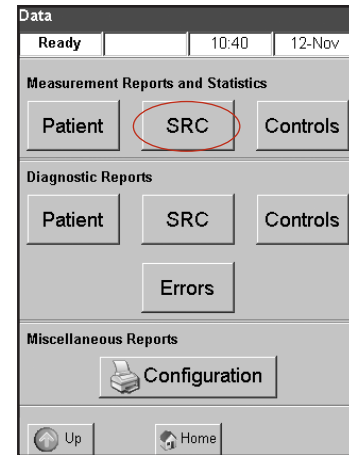

Figure D-2: Printing options
2. In the Measurement Reports/Statistics section, tap **SRC** (Figure D-2).